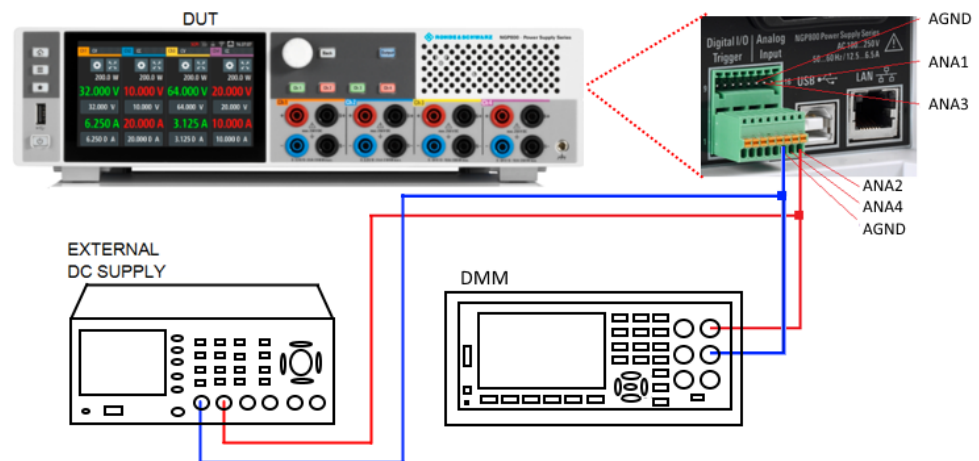

Figure 5-34: Analog input adjustment setup
- Set up the adjustment with instruments illustrated in Figure 5-34.